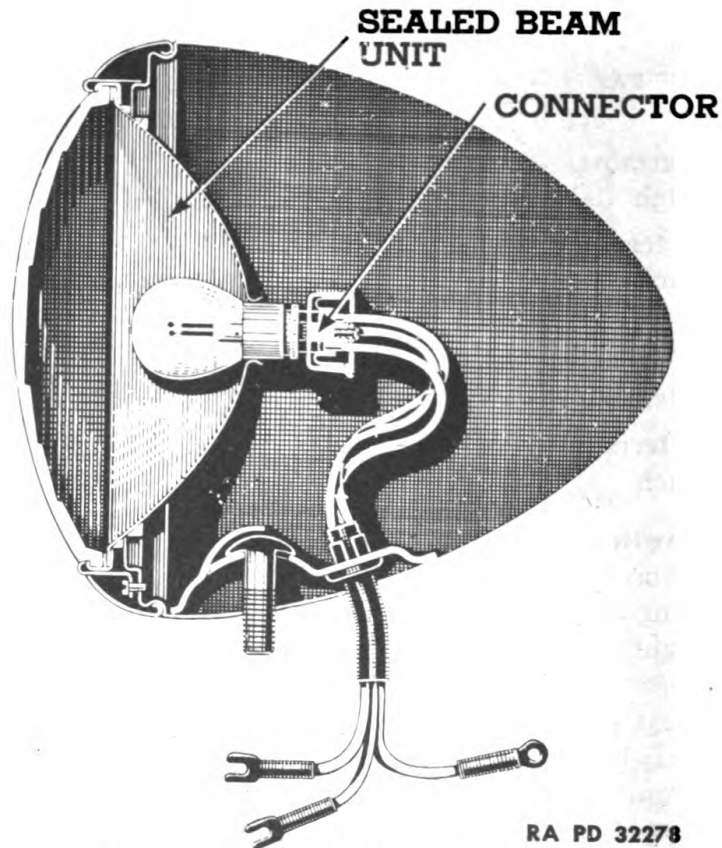

Figure 62—Headlight Construction
(1) **HEADLIGHTS** (fig. 62). The headlights are the "sealed beam" type; the reflector, lamp, and lens are a complete unit, and can only be replaced as a unit. The lower beam filament is positioned slightly to one side of the focal point in the reflector. This results in deflecting the lower beam to the right side of the road when approaching other vehicles going in the opposite direction. The headlights use a 6- to 8-volt, 45- to 35-watt triple-contact lamp.